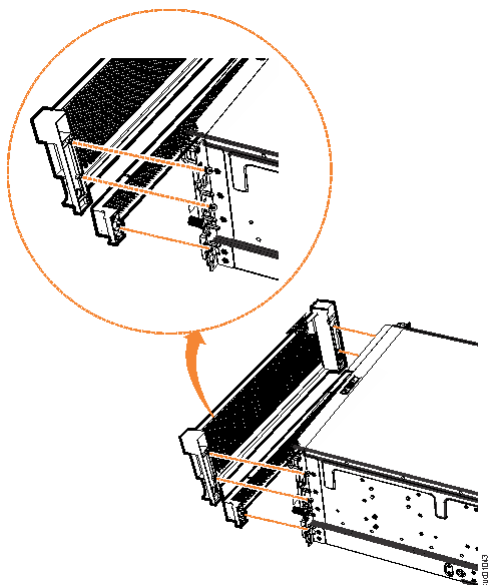

Figure 91. Replace fascia components on the expansion enclosure
1. Align the front 4U fascia with the enclosure so that the thumbscrews go through the holes on each side. As Figure 91 on page 74 shows, this action aligns the screw holes on the back of the fascia with the screw holes on the front flange of the enclosure.
3. Reattach the bottom 1U fascia that covers the power supply units (PSUs). Align the fascia with the enclosure and gently push it until it clicks into place on the chassis, as shown in Figure 91 on page 74.